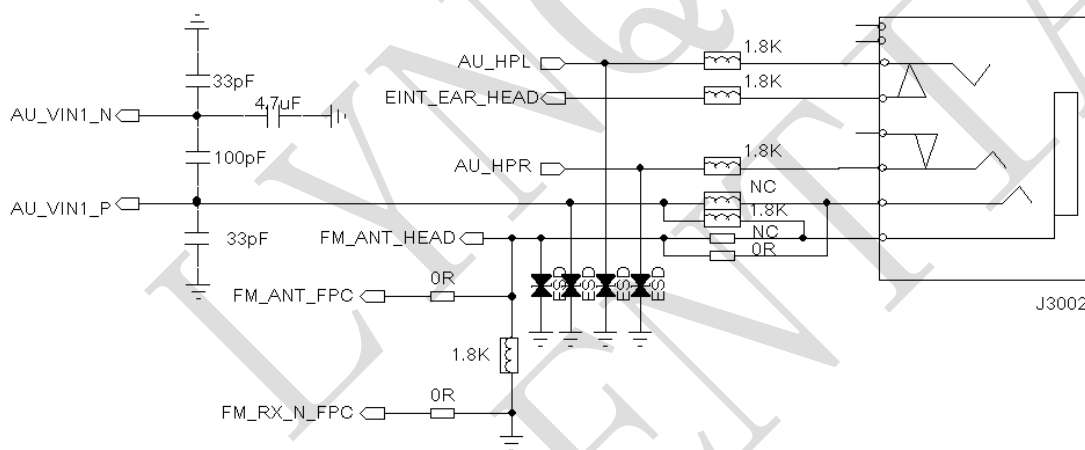

Figure 3-8 Headphone reference circuit
(2) Headphone reference circuit refers as figure 3-8.